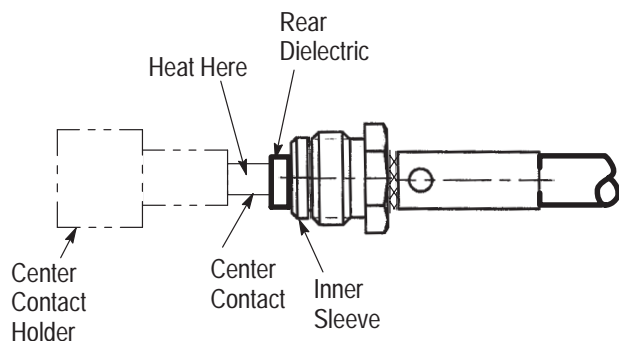

Figure 4
1. Insert rear dielectric over inner conductor until it seats firmly against the inner sleeve. See Figure 4.